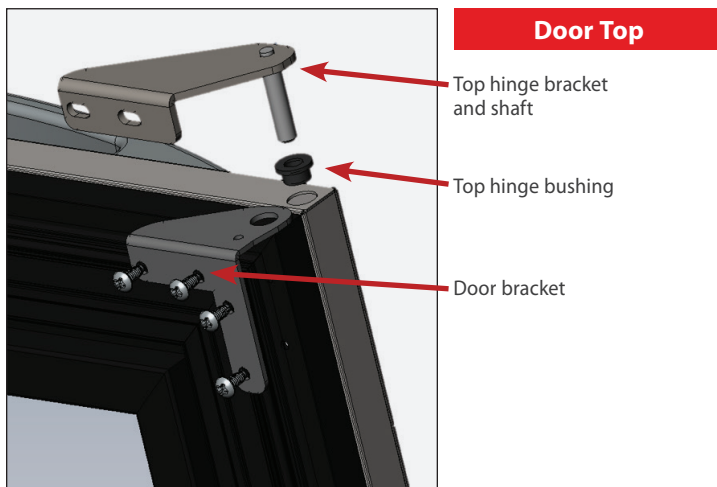

Fig. 4a. Top hinge components.
- Remove all door hardware except the door handle (see figs. 4a and 4b). Set the door brackets aside.